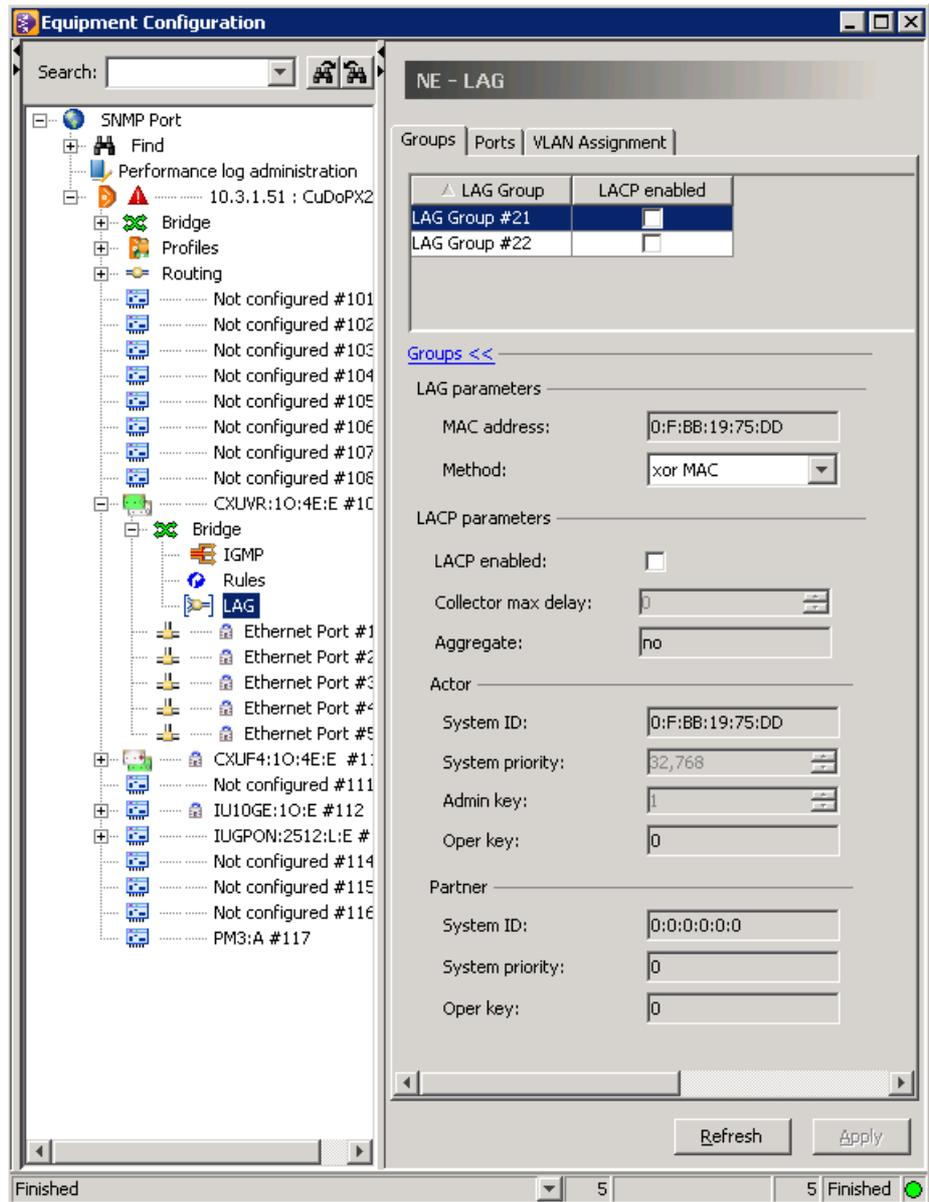

Figure 73 LAG Groups
1. Click “NE:hiX5750 ⇨ CXUVR:1O:4E:E#109 ⇨ Bridge ⇨ LAG” and select the “Groups” tab, see Figure 73.